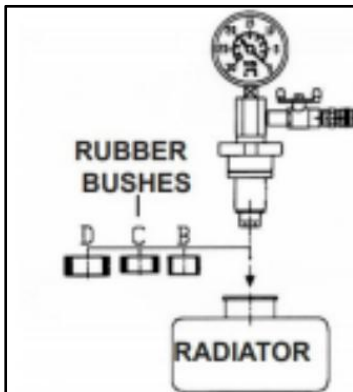

FIG.1
3.2 Using a suitable bush (fig.1) fit item into the filler neck of the radiator (or header tank, if fitted).